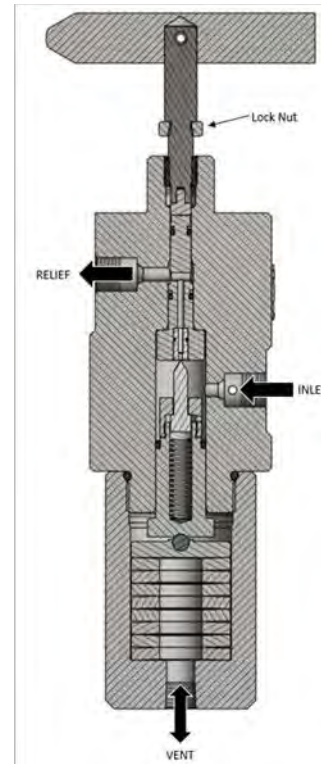

Figure 1 – Cross Section
If panel mounting, loosen the lock nut on the handle assembly, see Figure 1 – $3/8$ inch wrench, and remove the handle. Mount the valve, then replace the handle and tighten the lock nut.
- 3.4 Tighten the lock nut (71002111) on the handle, see Figure 1, to avoid inadvertent changes to the adjustment. - 3/8" Wrench